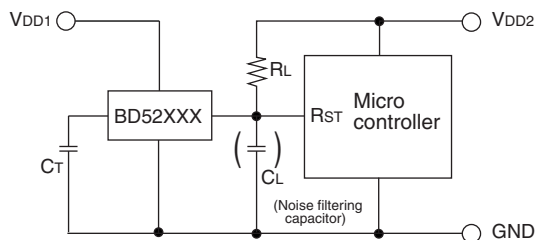

Fig.10 Open collector output type
- ① When the power supply of microcontroller (V_{DD2}) and power supply for the reset detection (V_{DD1}) is different. Provide R_L for the output of a product with open drain output (BD52XXG/FVE series) on the V_{DD2} side, as shown in Fig.10.